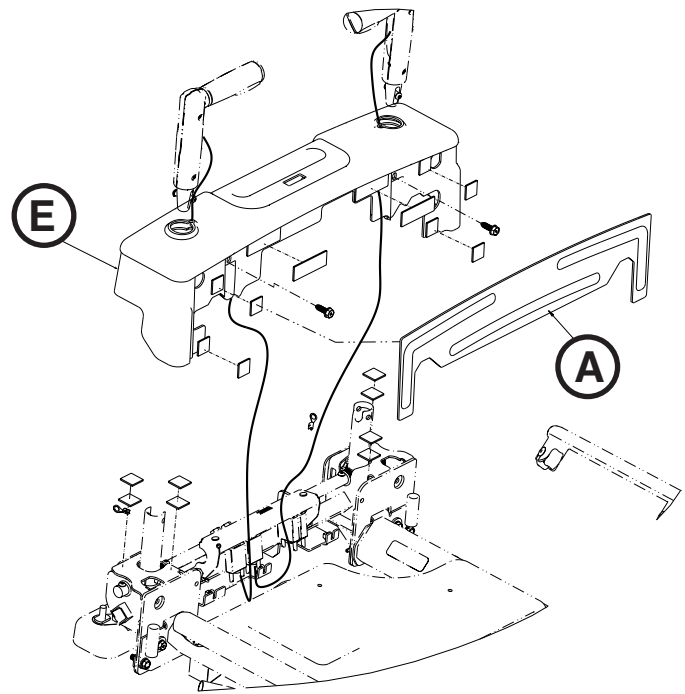

Figure 59
1. Pull off the back display cover (A) (Figure 59).